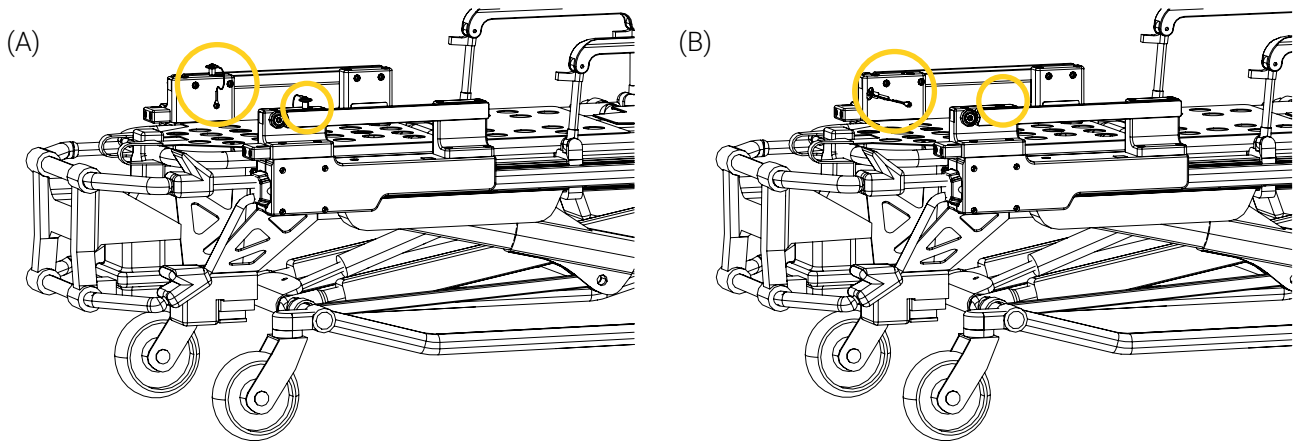

Figure 24: Removing the lock pins
- If required, remove the lock pin from the clamp block on both sides of the stretcher (Figure 24).